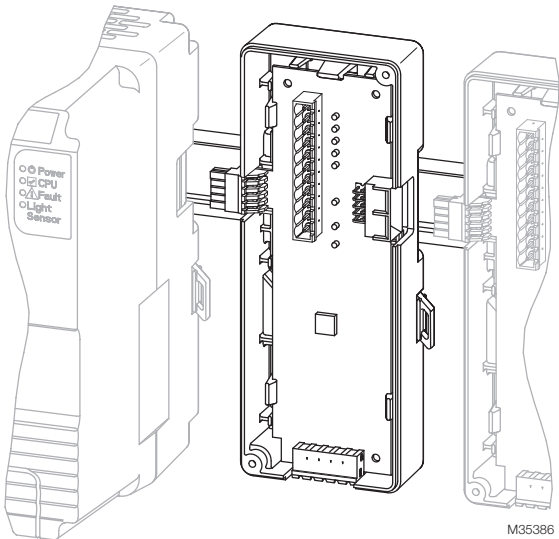

Fig. 4. Connecting additional sub-base modules.
4. When securing subsequent sub-base modules make sure communication ports are aligned and locked into place. See Fig. 4.